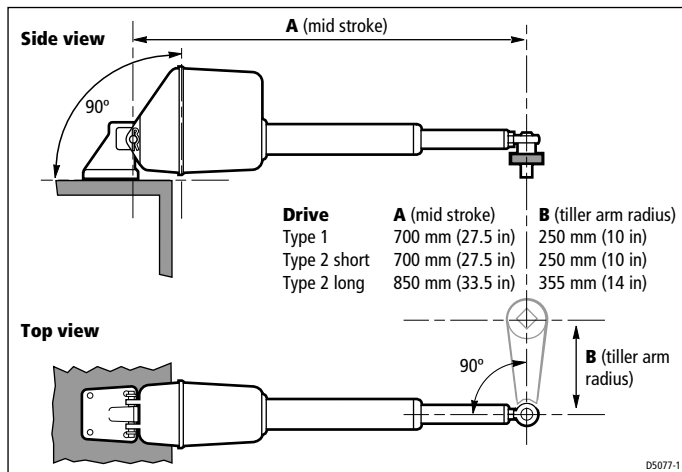

Figure 4: Drive unit alignment
- The main drive assembly must be at right angles to the mounting surface (see *Figure 4*).
- The drive unit must be at right angles to the tiller arm when the rudder is amidships (see *Figure 4*).
Use the supplied tiller pin assembly to attach the rod end to the tiller arm, at the tiller arm radius shown in *Figure 4*.
**Note:** *If necessary, you will need to drill a 13 mm (0.52 in) hole in the tiller arm at the radius shown in *Figure 4*.*